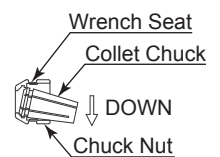
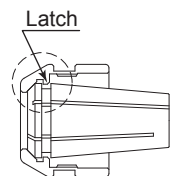

Fig. 5
Fig. 7
- ② The collet chuck and chuck nut are secured by a groove in the collet chuck and a flange in the chuck nut. To remove the collet chuck hold the chuck nut in one hand and push diagonally down on the collet chuck. The collet chuck should be released (Fig. 5).
Press the collet chuck in the chuck nut by positioning the collet chuck in the chuck nut and pressing down on flat surface (Fig. 5). Be sure to fully engage the latch inside the chuck nut into the groove on the collet chucks outer circumference area (Fig. 7).